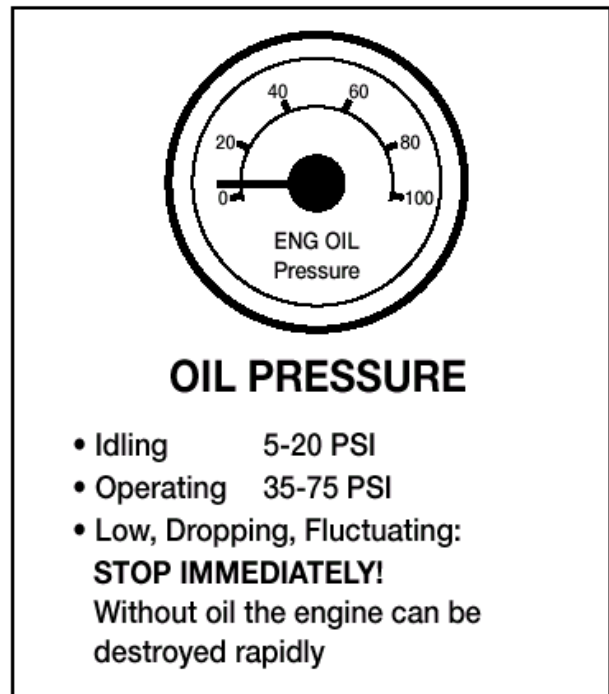

Figure 2.5
- ☐ Oil pressure. Should come up to normal within seconds after engine is started. See Figure 2.5